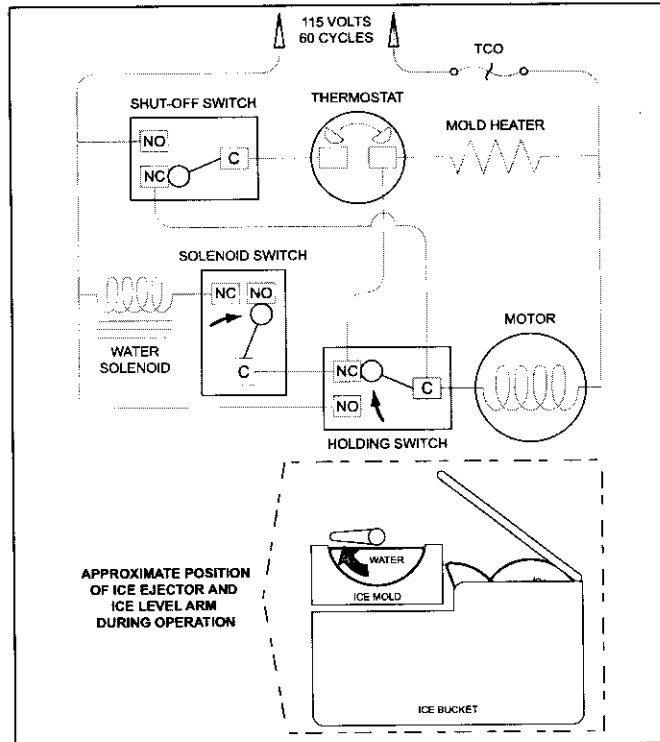

**Figure 6-16. Second Revolution Continued**
**Second Revolution Continued (See Figure 6-16)**